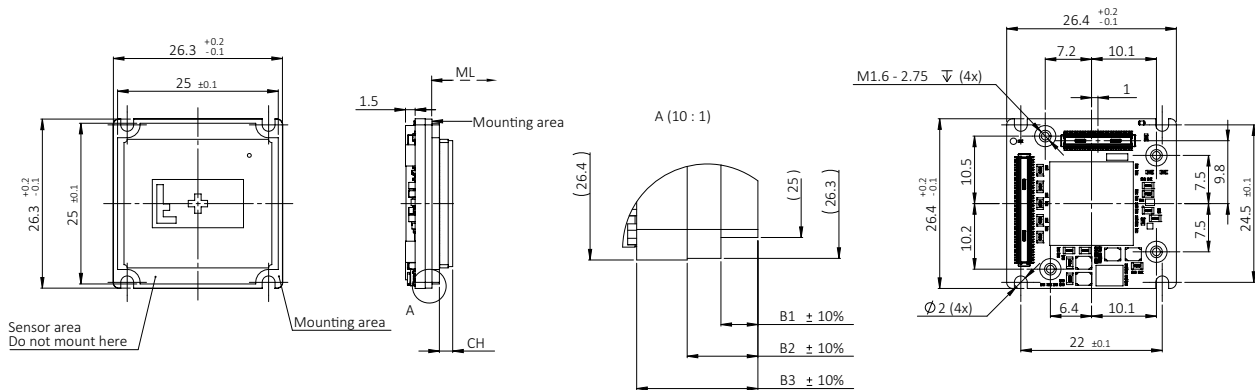

Figure 66: Bare Board (Alvium Flex) dimensions
Dimensions that are common between different models are shown in Figure 66, model specific dimensions are listed in Table 87. **Mechanical length** (ML) defines the mechanical distance from the mounting area to the lens mount front flange, without optical filter. **Components height** (CH) relates to the electronic components with maximum height, sometimes the sensor.